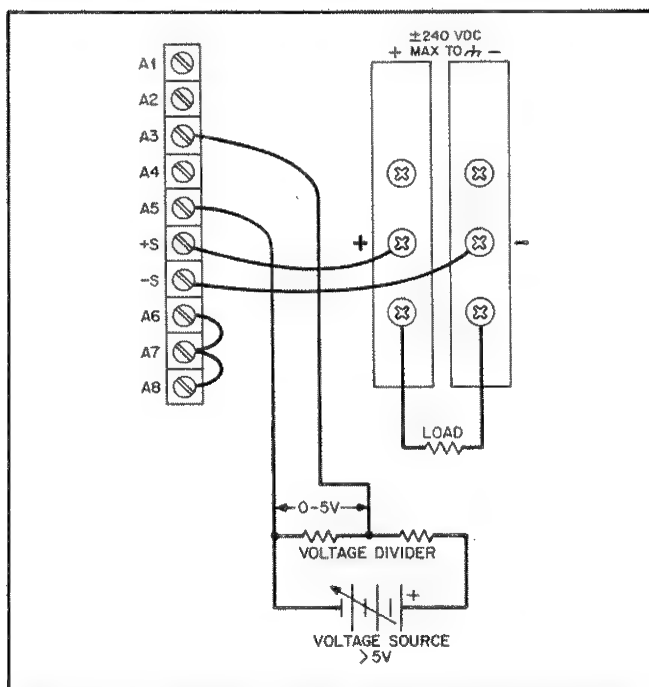

Figure 3-12. Scaled Voltage Programming of Output Current
**3-59 Scaled Voltage Programming of Output Current.** The rear-panel connections shown in Figure 3-12 allow the output current to be varied by using an external voltage source of more than 5 volts to program the supply. The discussion in Paragraphs 3-54 and 3-55 for constant voltage operation also applies for constant current operation.